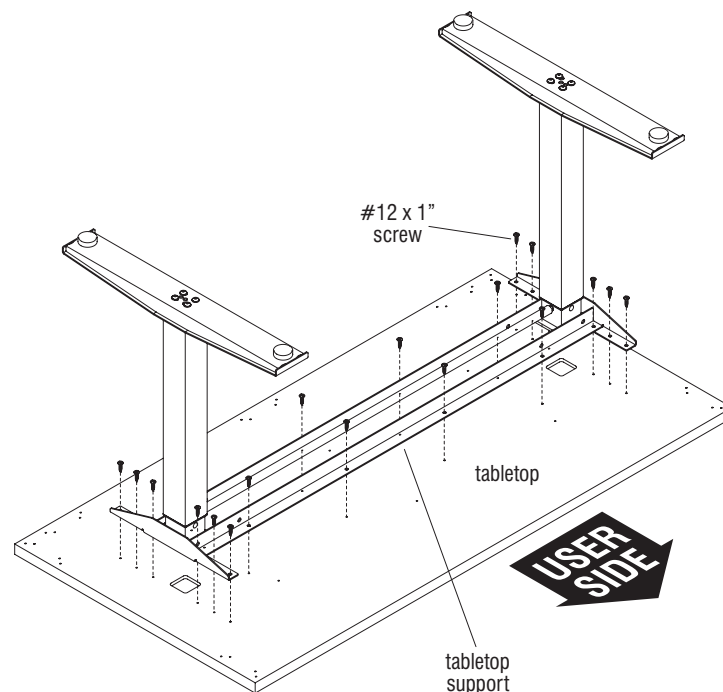

Figure 3
2. Place the tabletop support with columns on the drilled face of the tabletop so the heads of the M8 bolts set into the pockets milled in the tabletop. The support should now be flush with the tabletop (Figure 3).
3. Move the tabletop support with columns slightly to align the holes in the tabletop with those in the support (Figure 3).
4. Attach the tabletop support to the tabletop using #12 x 1" tapping screws in each available hole (Figure 3).